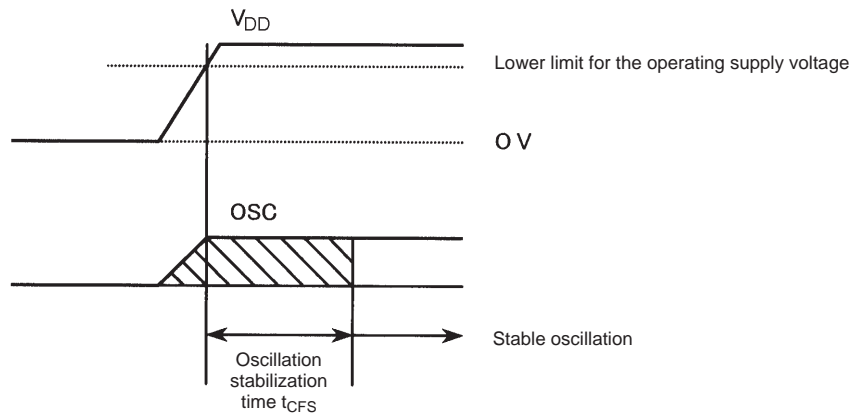

Figure 4 Oscillation Stabilization Time
8. Indicates the time required to achieve stable oscillation from the point V_{DD} rises above the lower limit of the operating voltage range (See figure 4).